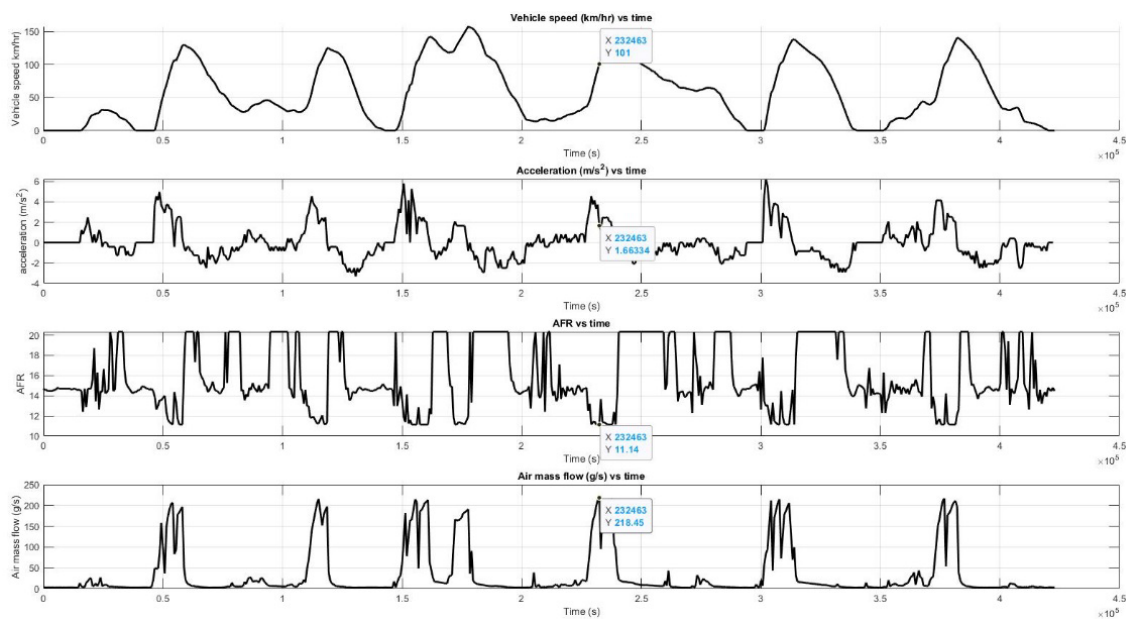

Figure Q3
3. (a) Figure Q3 shows the vehicle speed, acceleration, Air Fuel Ratio (AFR) and air mass flow rate data extracted from a 4-cylinder turbo 2.0L, 5-speed Spark-Ignition passenger car. At time $t = 232463$ s, the data is as follows:
- (ii) How does the Air Fuel Ratio (AFR) change with the power demand? Give specific example of data from Figure Q3.